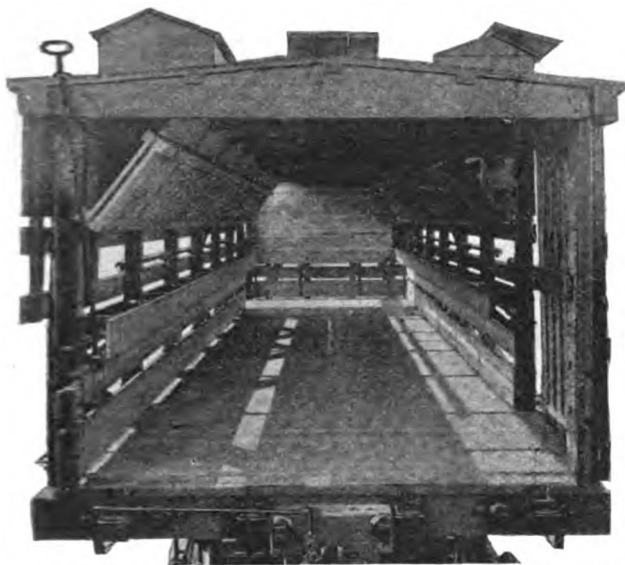

Fig. 42. INTERIOR OF STOCK CAR FOR CATTLE AND HORSES. ATCHISON, TOPEKA & SANTA FE RAILROAD. Showing Racks and Troughs for Feeding and Watering.
*Arrangements for Feeding and Watering, Equipped with Air Brakes and Swing Motion Trucks. (Interior shown in Fig. 42.)*